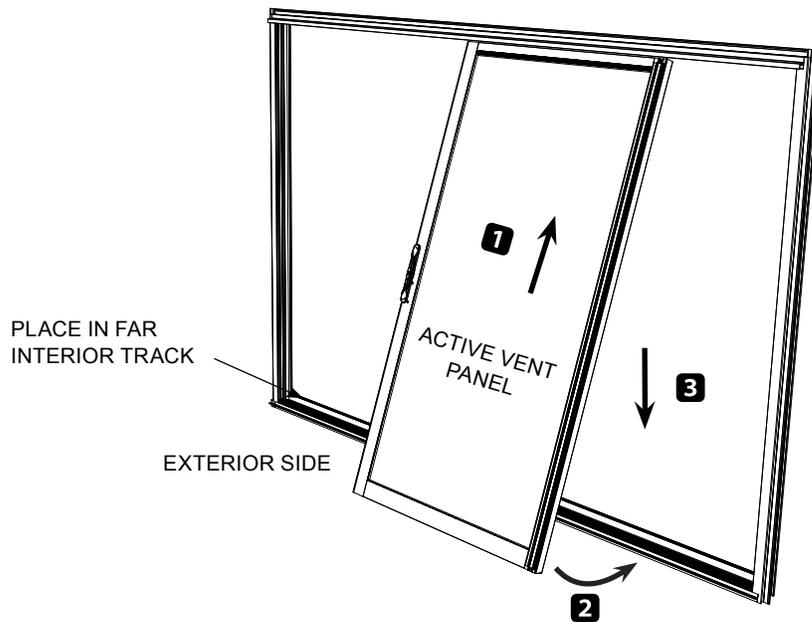

FIG. 49
1. Tip active vent into far interior track. Install from the exterior side. (FIG. 49)